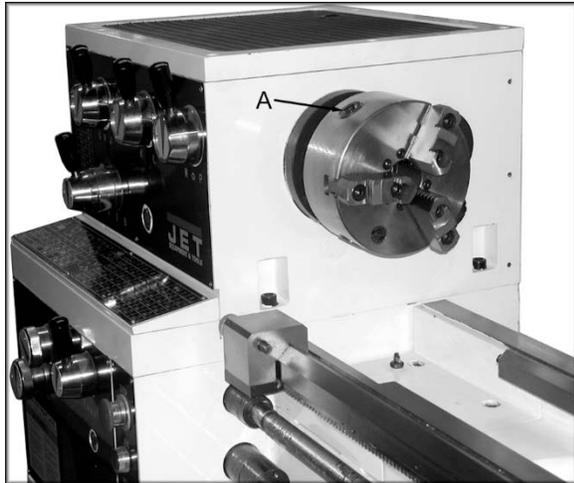

Figure 1
3. Turn cam locks (A, Figure 1) to release chuck. Remove chuck and place it on a piece of wood.